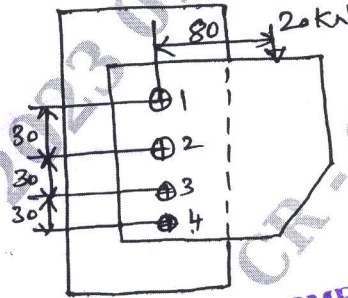

Fig.Q7(b)
- b. A bracket is supported by means of 4 rivets of same size as shown in Fig.Q7(b). Determine the diameter of rivet, if the maximum shear stress is 140 N/mm^2 .